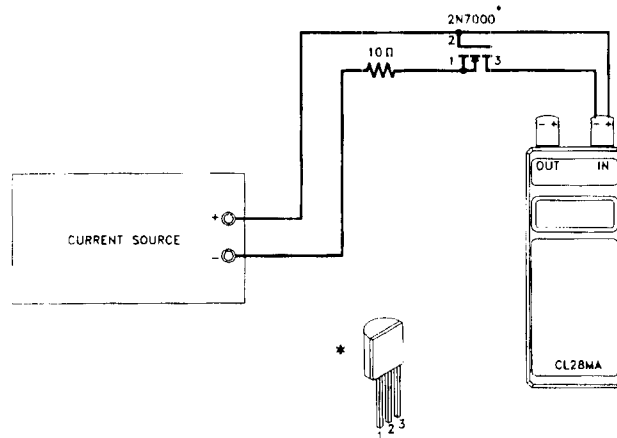

Figure 8. Calibration Setup, Measure Input
6. Calibration cables per Figures 8 and 9.
4. Hook up test-equipment, cables, and CL28MA per Figure 8.